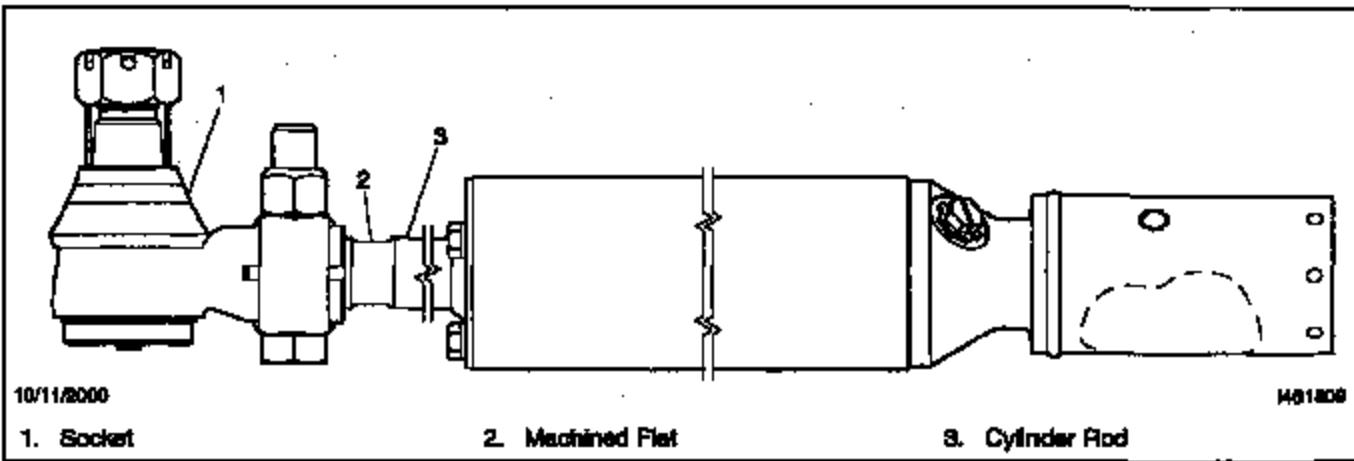

Fig. 10, Socket and Platen Rod
5. Hold the cylinder rod in position using a wrench on the machined flat. See Fig. 10. Unscrew the socket from the piston rod.